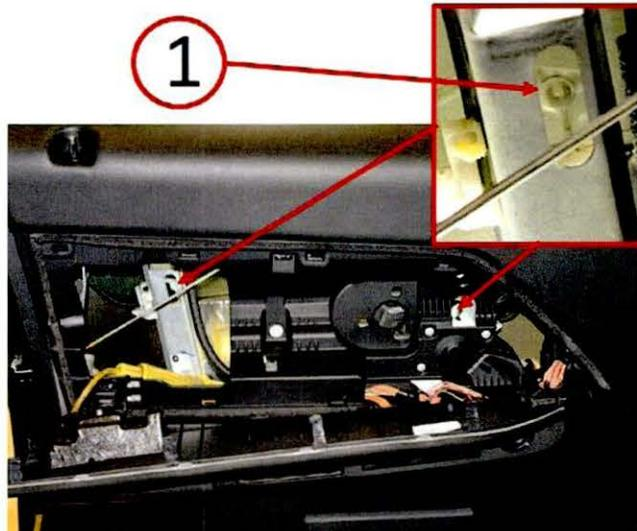

Fig. 3 Release Window
3. Using a punch or equivalent, press tabs releasing window glass from window regulator lift plate. Front door shown, rear door has only one glass to regulator attachment point (Fig. 3).